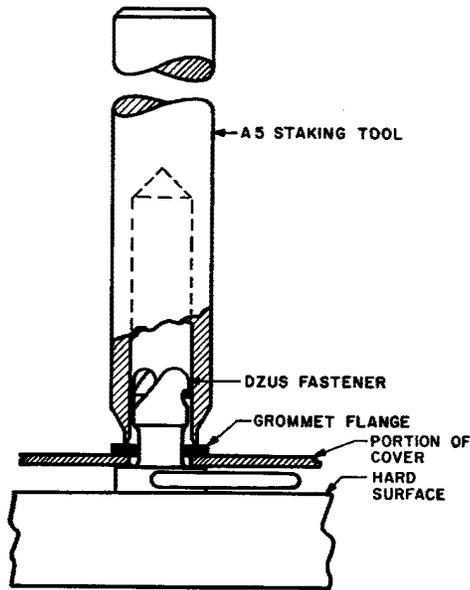

Fig. 4 – Method for Cutting Off Grommet Flange
5.01 Covers Without Dimpled Holes: To replace a Dzus fastener stud, remove the cover as covered in 4.03. Where the stud is loose on the cover and the associated grommet that holds the stud in place is deformed or broken, proceed as follows. With the head of the fastener stud resting on a hard surface, the stud may be removed by setting the cutting edge of the staking tool over the stud and resting on the grommet as shown in Fig. 4. Tap the staking tool with the ball-peen hammer until the flange of the grommet is sheared off. Remove the stak-